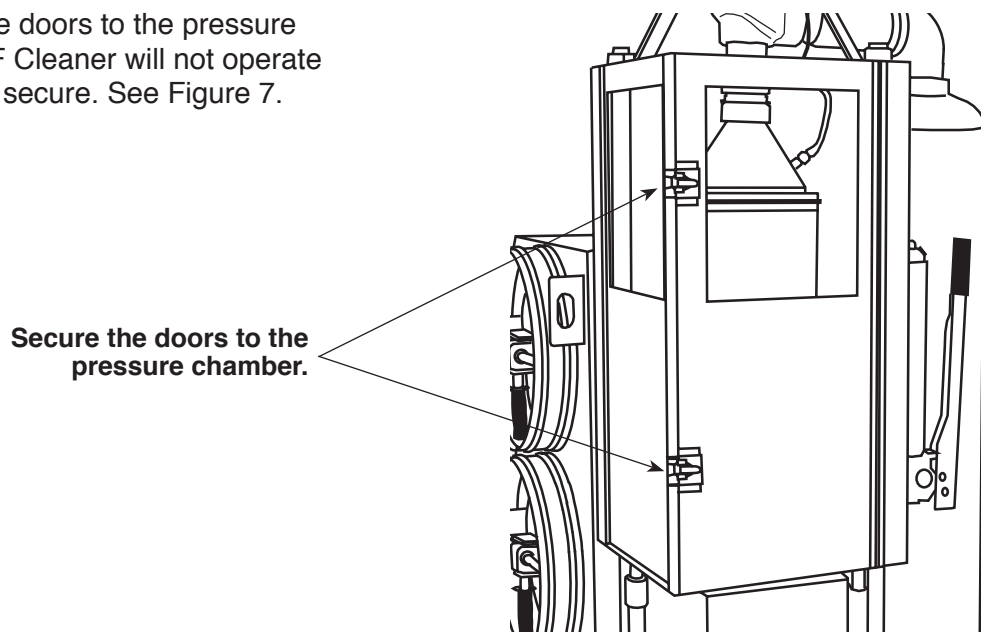

Figure 7
- Close and latch the doors to the pressure chamber. The DPF Cleaner will not operate until the doors are secure. See Figure 7.